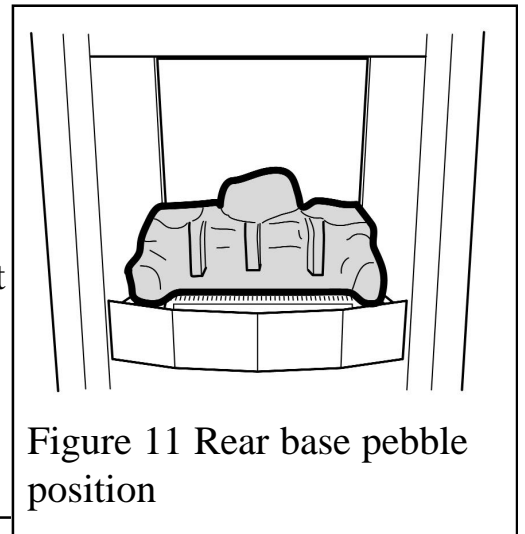

Figure 11 Rear base pebble position
1. Place the rear base pebble in the firebox. It should rest on the ledges at the rear sides of the burner unit. When located gently move the rear base pebble so that it is as far forward as possible. The amount of movement will be negligible (See figure 11).